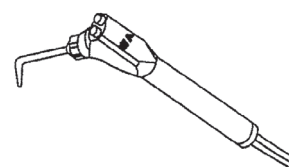

Fig.5-5 Siringa Belmont 77
3. Siringa Belmont 77 (Fig.5-5)